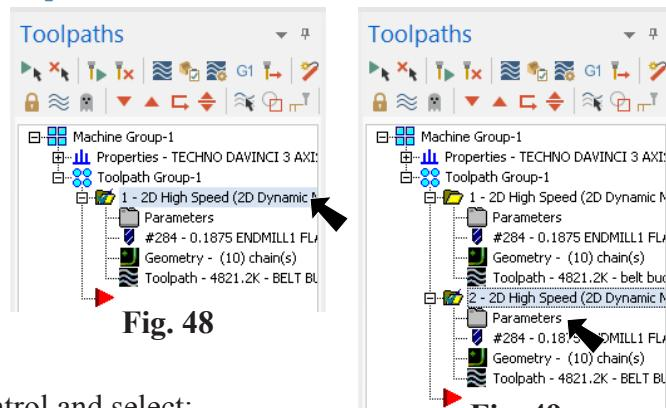

Fig. 49
Step 2. Copy and Paste Dynamic Mill toolpath in the Toolpaths Manager. To copy, click to select toolpath, Fig. 48. Then, use Ctrl-C and Ctrl-V, Fig. 49.
Step 3. Expand copied toolpath and click Parameters, Fig. 49.